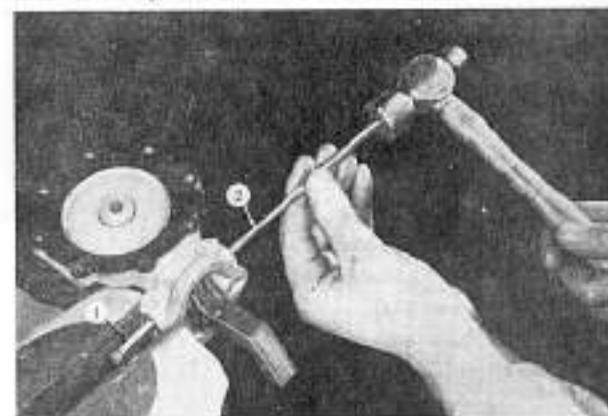

FIG. 391
To remove the rocker arm assembly, file the riveted end of rocker arm pin flush with the steel washer or cut off the end with 3/8-inch (9.5 mm.) drill. Drive out the rocker arm pin (1, Fig. 391) using AC tool PT 6, Kent-Moore tool No. KMO 707 (2). Wiggle the rocker arm until the links unhook from both diaphragms. Then remove the rocker arm spring, rocker arm, and link assembly.